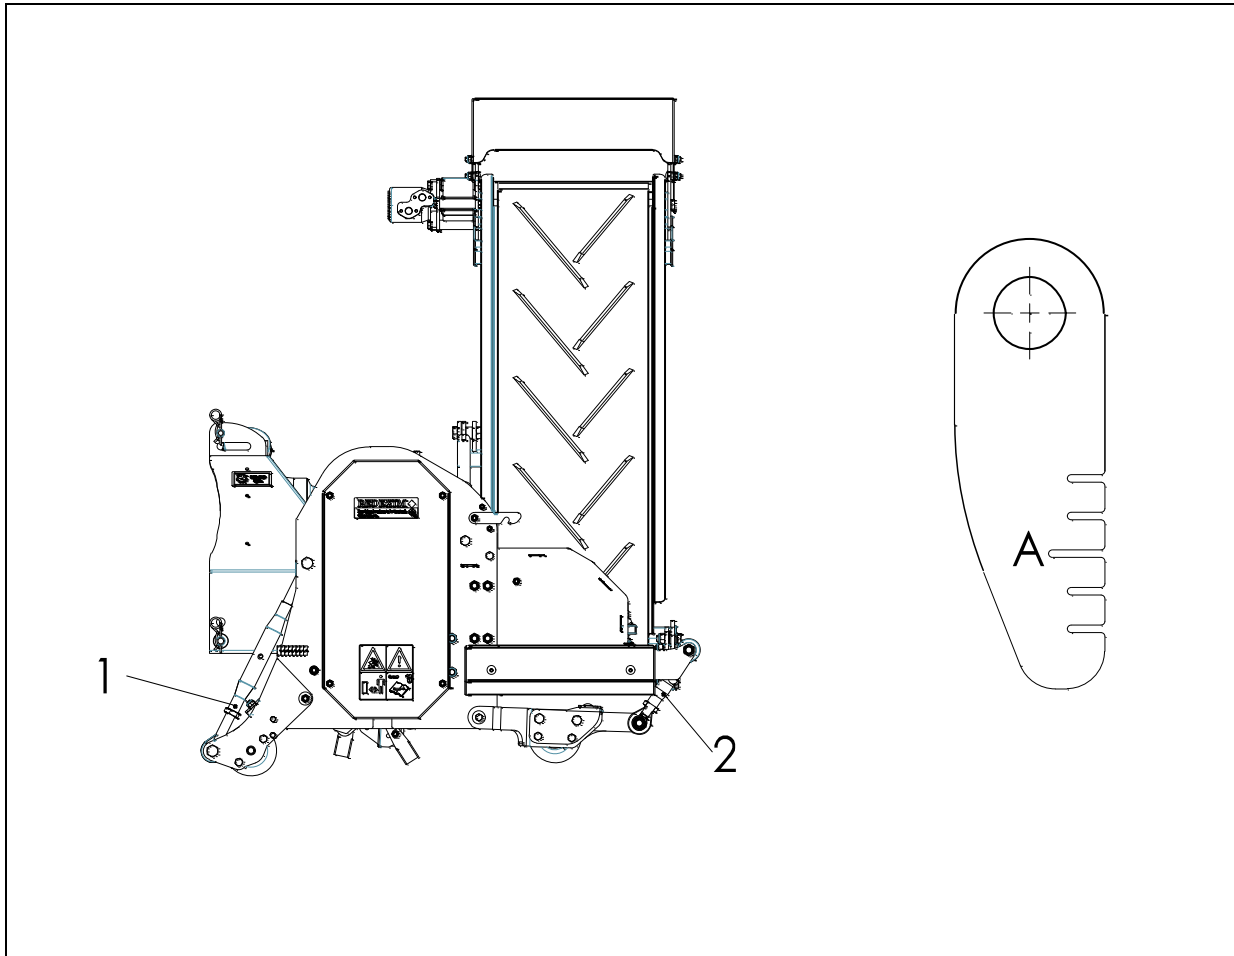

Figure 11
1. Adjust the rear spindles (2) to the correct position. For this purpose, use the indicator (see Figure 11) and block it by tightening the lock nut.
2. Adjust the front spindles (1) at both sides of the machine until the required working depth is achieved and block it by tightening the lock nut.